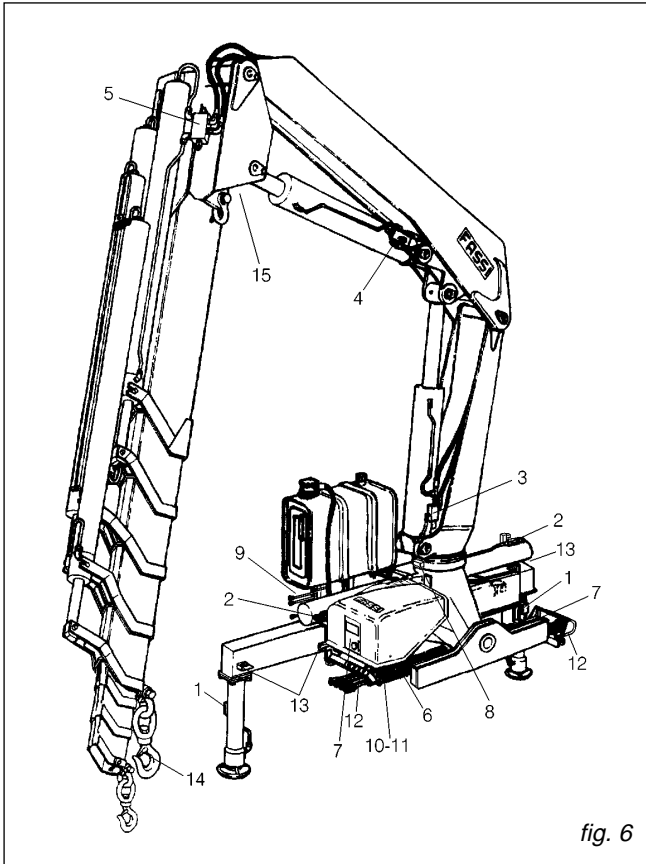

fig. 6
10.1 Crane with ground controls on both sides. (fig. 6).